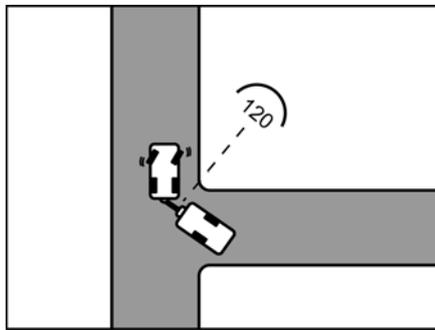

Fig. 11 Approach
- As soon as both vehicles are at an approximate angle of  $120^\circ$  to each other, come to a stop (Fig. 11).